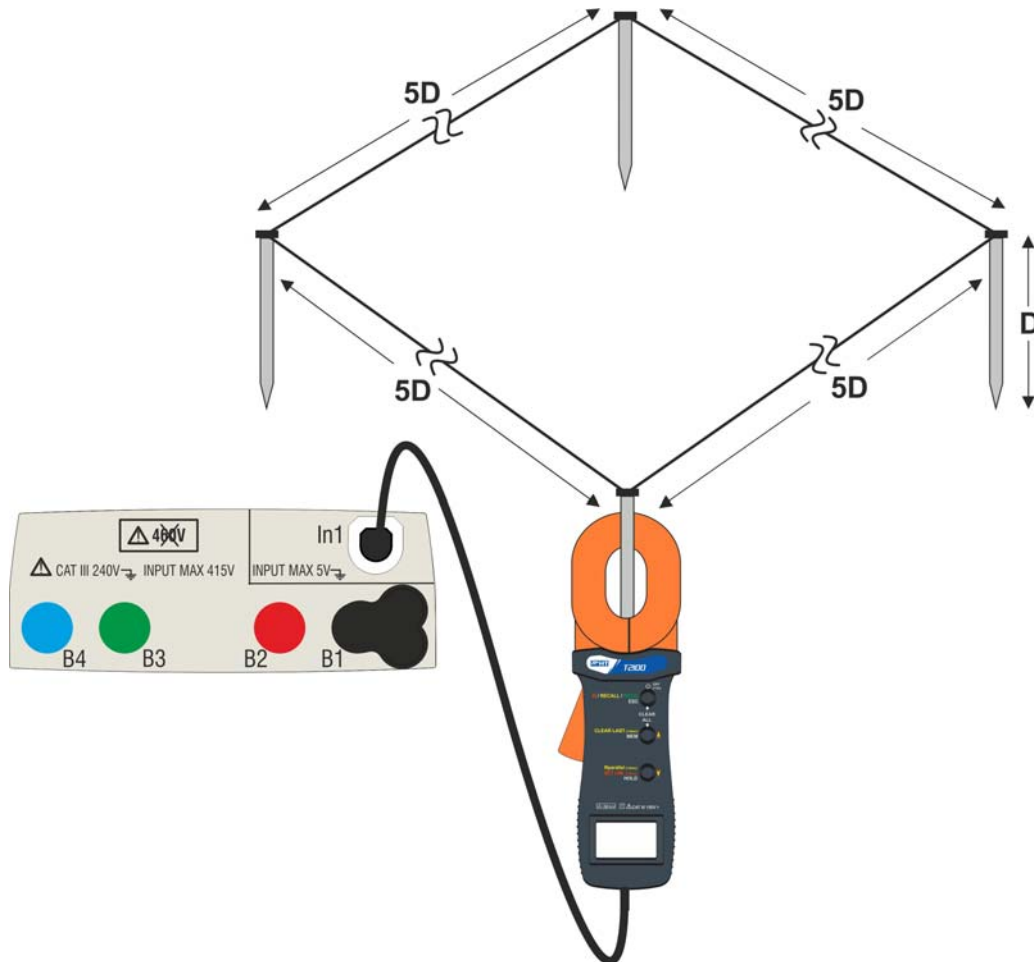

Fig. 30: Resistance measurement of single rods with clamp T2100
The measurement carried out by clamp T2100 can be used to evaluate single rods resistance values within an earth installation without disconnecting the rods, **assuming they do not affect each other** (see Fig. 30).
4. Connect the clamp to the first rod of the earth network considered as shown in Fig. 30. Note the value of the resistance in the R field and press the icon to insert this value in the calculation of parallel resistance and increase the N parameter by one unit ($N = 1$)